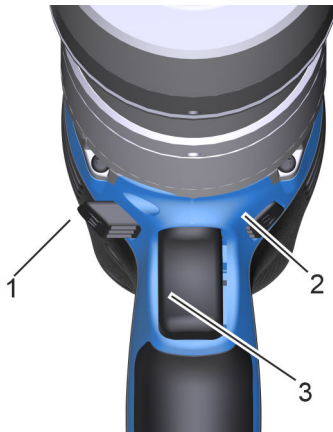

Fig. 46: Direction of rotation
To tighten in clockwise direction (CW), push the direction of rotation setting (Fig. 46/1) to the right.
To loosen in counterclockwise direction (CCW), push the direction of rotation setting (Fig. 46/2) to the left.